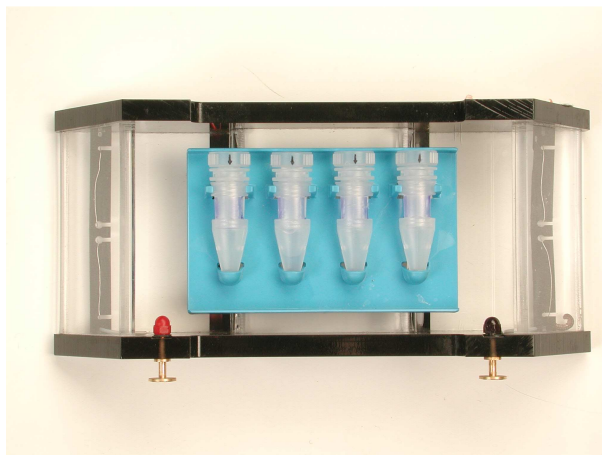

Figure 4. Supporting Tray containing four D-Tube Dialyzers in a horizontal electrophoresis tank. Membranes of each tube are perpendicular to the electric field.
- Place Supporting Tray containing D-Tube™ Dialyzer(s) in a horizontal electrophoresis tank (such as tanks typically used for nucleic acid agarose electrophoresis) containing protein running buffer (see Figure 4).
5. Place Supporting Tray containing D-Tube Dialyzer(s) in a horizontal electrophoresis tank containing running buffer (see Figure 4 on p 7).